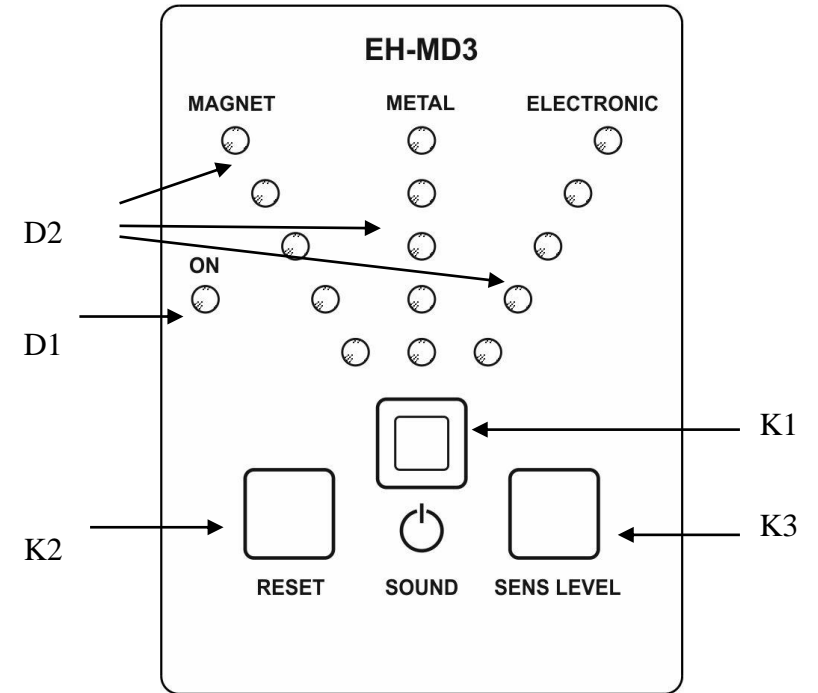

Figure 2
- Switch on the device by pushing the K1 button, the Power On LED indicator (D1) will light green (Fig.2). After a few seconds the detector produces a short beep, then LED indicator of detectors (D2) goes off (the rarely flashing of the first LED indicators D2 is acceptable).
EH-MD3 controls are located on the face panel of the handle. Description of the buttons and scale are shown in figure 2.